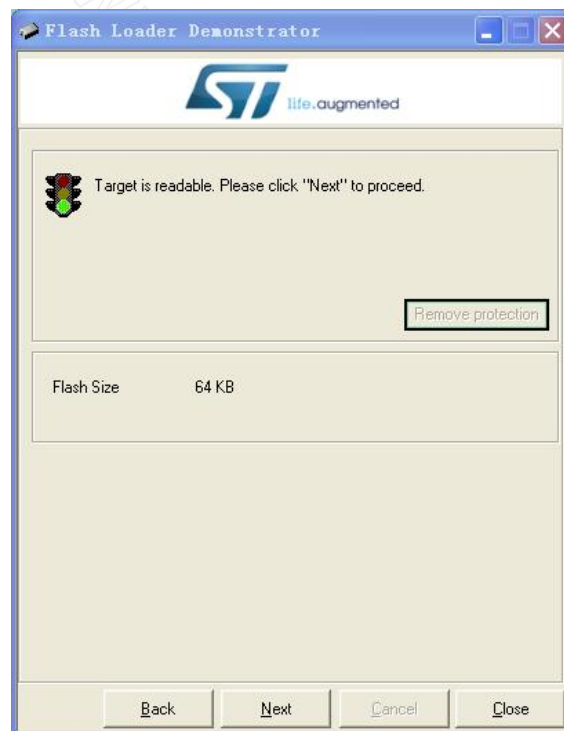
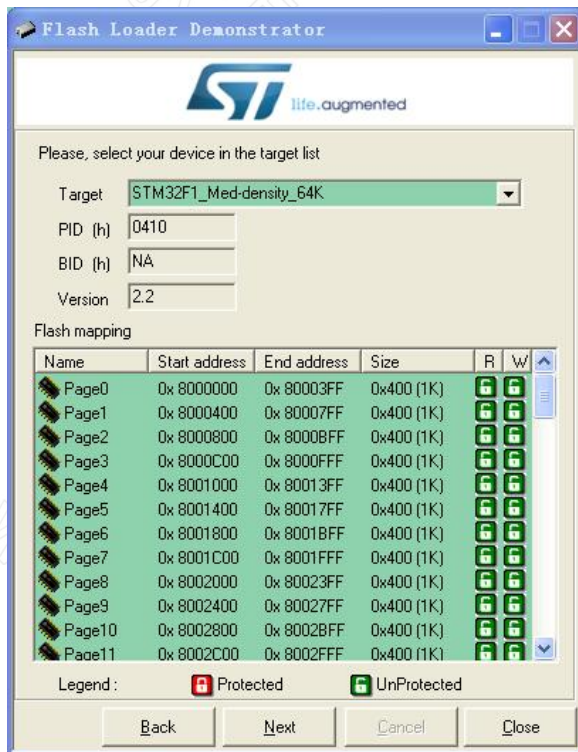

Fig. 6
Fig. 7
- 4) If there is no error you should see Fig. 6. This is a temporary state showing that the PC has successfully detected bootloader and the flash memory is readable or not. If you have problem to enter this state you can try reset the MCU by shorting the two pads in the RESET circle at top-right corner of the main board and try again. If that still doesn't work check connections and JP1/JP2. You can try swapping TX and RX lines if you are not very sure they are connected correct. Otherwise click on Next to proceed to next step as shown in Fig. 7.
- 5) Fig. 7 shows information about the MCU type and its flash memory. You just need to make sure the selection at Target dropdown is the same as shown in Fig. 7. Then click Next to proceed to next step.